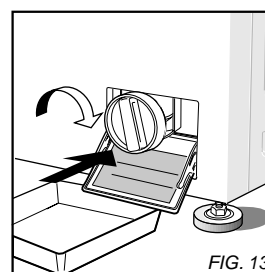

FIG. 13
4. Replace the filter and turn it clockwise until it is securely locked in place (Fig. 13). Give the cap a gentle tug to confirm that the filter is in securely.